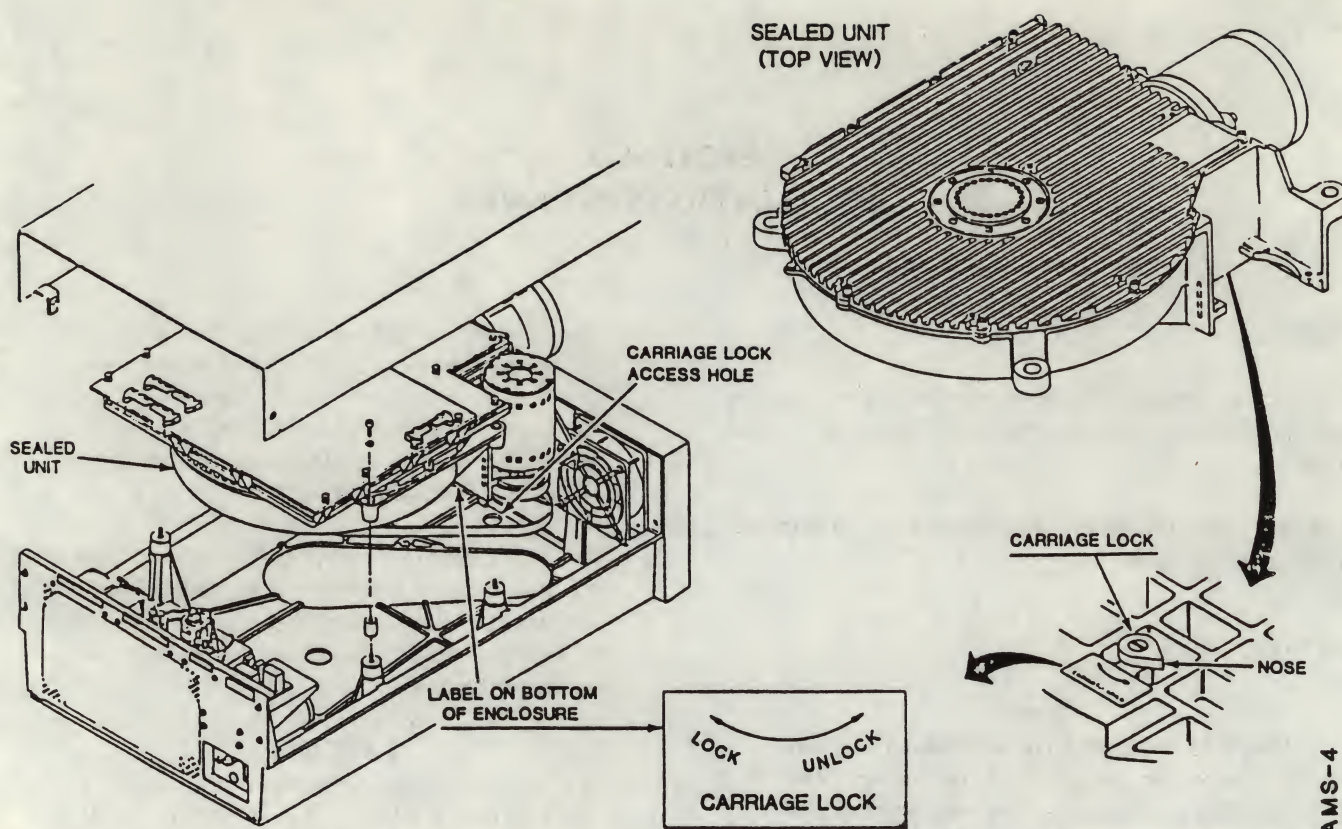

Figure 3-1. Mechanical Carriage Lock
- a. *Some units contain a mechanical carriage lock that is released by turning a bolt inside of the sealed unit (see Figure 3-1).*
2. The "CARRIAGE LOCK" bolt can be reached with a 6-inch long screwdriver via an access hole in the bottom of the enclosure. See Figure 3-1. Lift the enclosure about 8 inches, from the front end, to gain access to the hole.